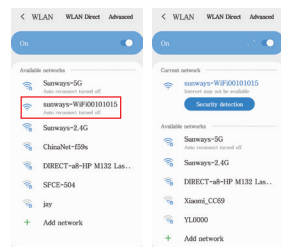

Figure 15
- D. WiFi connection succeeded as shown in Figure 15.